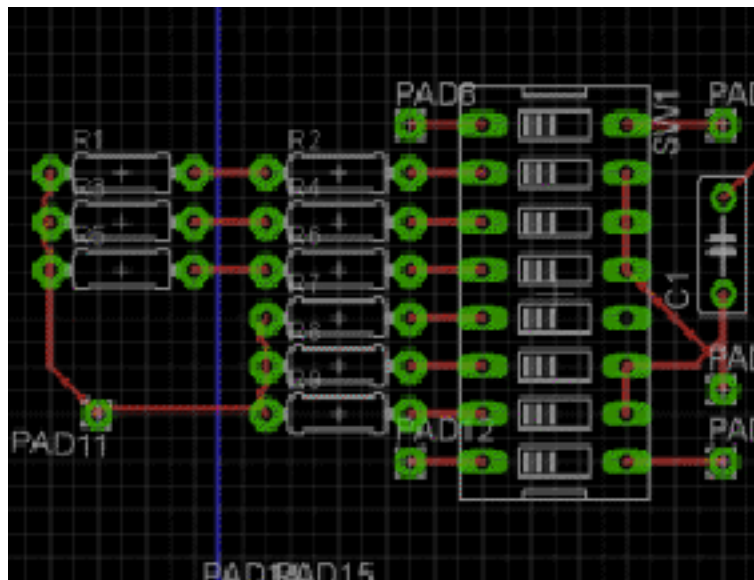

Figure 5: Filter design
- This will be tested with an oscilloscope. Each of the filters will be tested separately. The output of the filters will be connected to the oscilloscope. As the frequency is turned up, the voltage will be recorded. When 3db attenuation is reached, that will be the exact cut off frequency for that filter. After one is determined, the next filter will be tested by turning on its switch on the DIP switch. Figure 5 below shows the schematic of the filter.